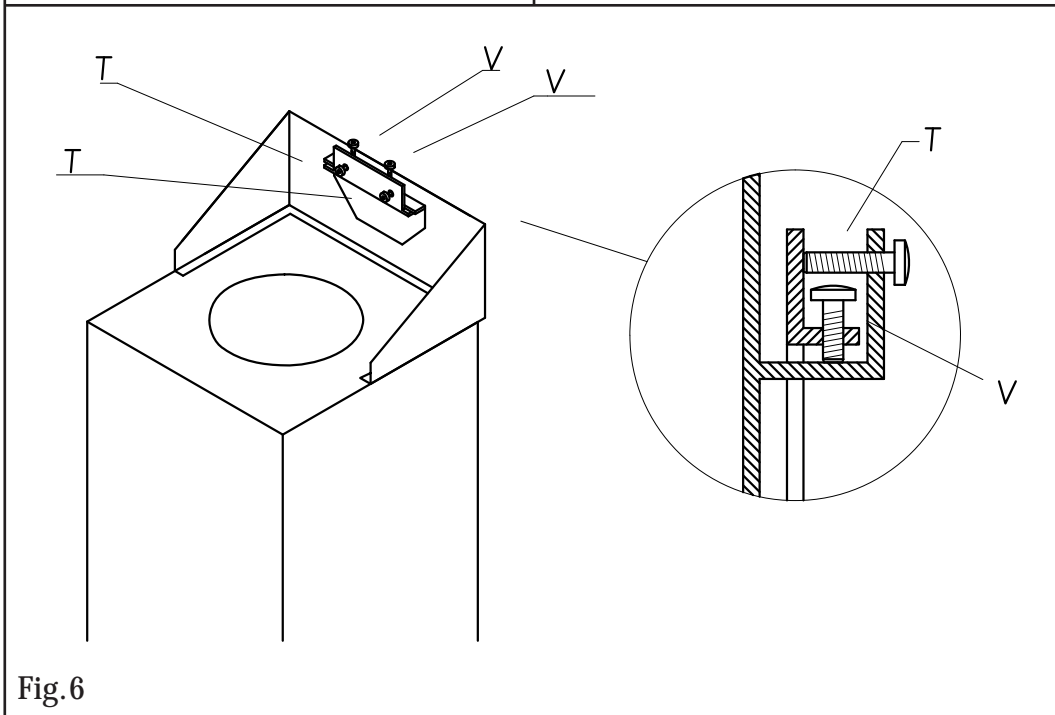
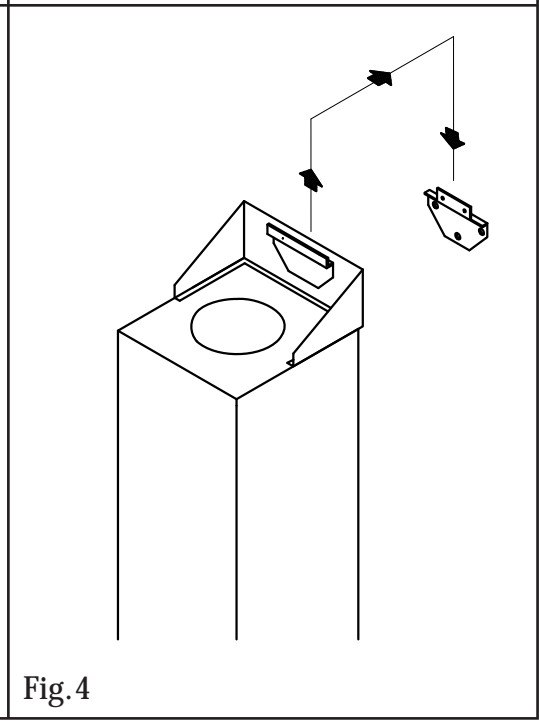

Fig. 6
Fig.4
Use the special drilling jig (Fig. 3A) to drill all the holes indicated by the jig into the wall. Pay attention in order not to damage water pipes and electric wires. Drill the holes with a Ø8-mm bit. The relevant plastic screw anchors are then inserted into the holes (Fig. 3B). The hood-supporting bracket (Fig. 3C) is applied by using the screws provided (Fig. 3D). Fix the metal corner elements (Fig. 3E) to the wall by using of the screws 3E. Hook the hood to the special bracket (Fig. 4). Adjust and lock by using the screws provided (Fig. 6 VT). In order to lock the hood in place insert the screws (Fig. 5A).
- Hook the sucking unit (Fig. 10) to the fixed wall bracket. By means of the adjustment screws (Fig. 6 VT) make sure the sucking hood is laterally flat.